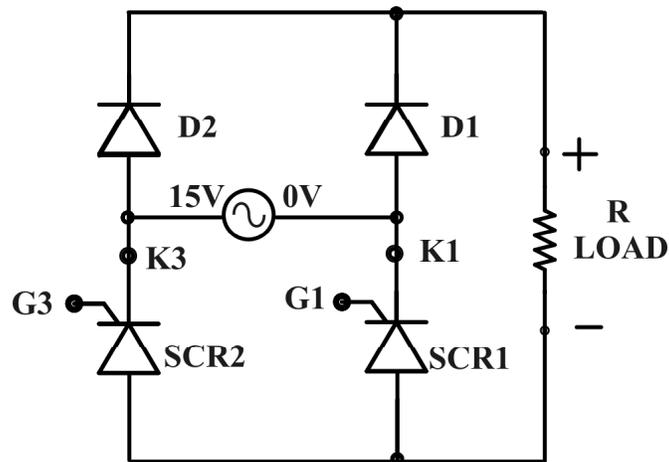

Figure 9
The circuit diagram of basic half controlled bridge rectifier (common anode configuration) is shown below in the figure 9
5. Connect the circuit of half controlled bridge rectifier (common anode configuration) as shown in figure 9 using 2 mm patch cords.
8. Vary the firing control Potentiometer and set on  $30^\circ$ ,  $60^\circ$ ,  $90^\circ$ ,  $120^\circ$  and  $150^\circ$  firing angles using equation (11).